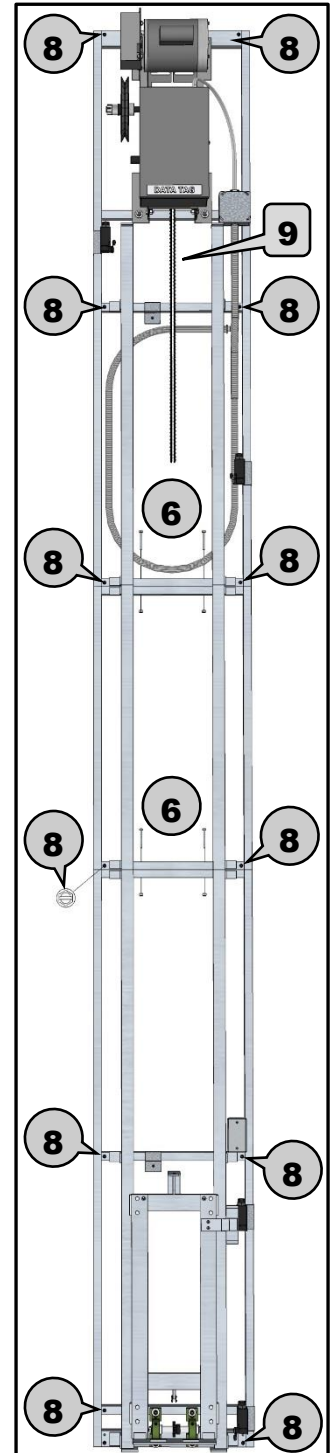

Figure 5
- 6** Use two (2) ¼" x 2 ¼" bolts & nuts to fasten sections together. (see Figure 5)
- 8** Use provided 3" lag screws to fasten track & rail assembly to wall. (see Figure 5)